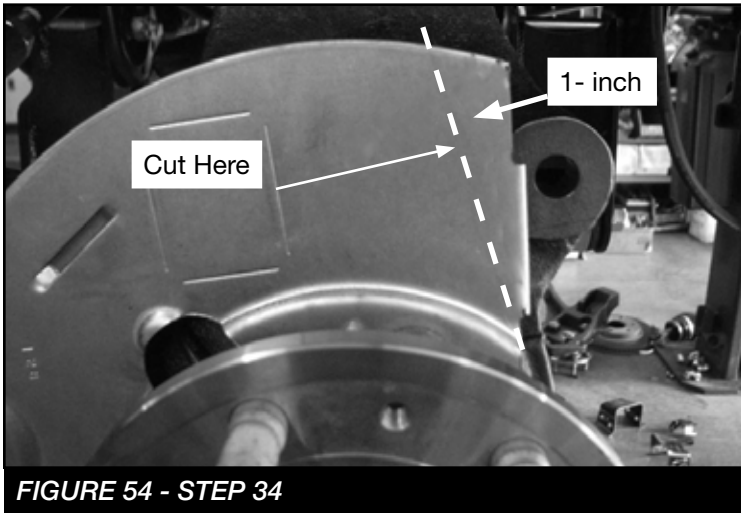

FIGURE 54 - STEP 34
34. The dust shield on the hub assembly needs to be trimmed to clear the new Fabtech spindle. Refer to **FIGURE 54**. Repeat for passenger side.